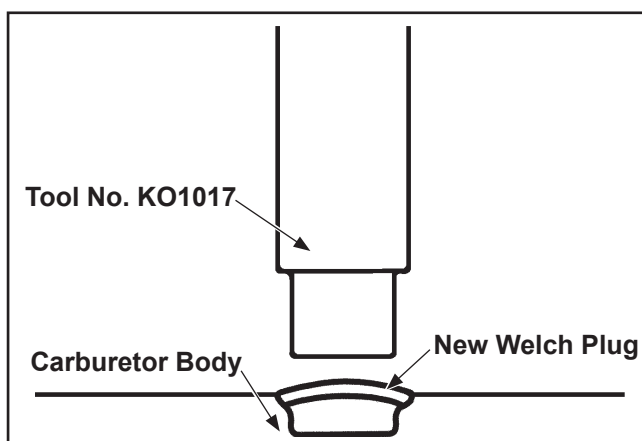

Figure 5-9. Installing Welch Plugs.
- Use the end of the tool that is about the same size as the plug and flatten the plug. **Do not** force the plug below the surface of the cavity. See Figure 5-9.